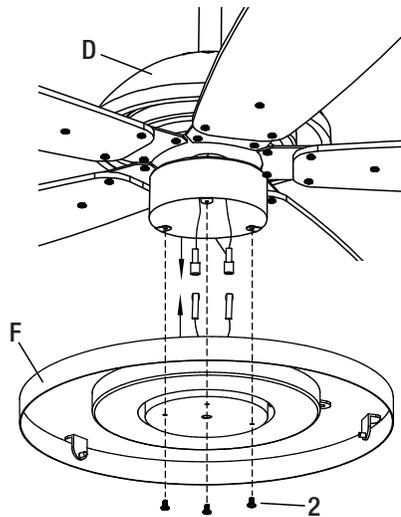

Figure 14
- Remove the three light kit screws (2) from the switch housing. Connect the blue wire from the fan to the blue wire from the light kit and the white wire from the fan to the white wire from the light kit by securely inserting the connectors together. (Figure 14)
- Carefully tuck all wires into the switch housing, and attach the light kit (F) to the switch housing using the three screws pre-installed in the switch housing. (Figure 14)